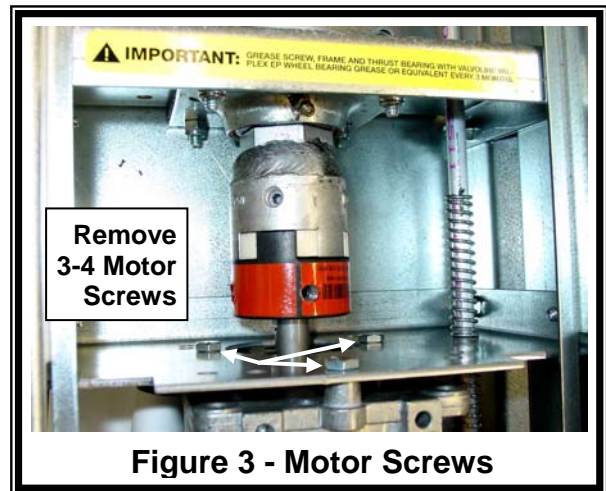

Figure 3 - Motor Screws
- (11) Turn the motor on and run the Load Block to within 4 inches of the top of the Drive Screw. If the Load Block is completely stripped, disconnect all electrical power and run Load Block upward by hand.
- (12) Disconnect all Electrical Power from the Power Trak™.
- (13) Unplug the motor quick-disconnect.
- (14) While supporting the motor, remove the three/four motor screws/nuts and set the motor aside. **Refer to Figure 3.**